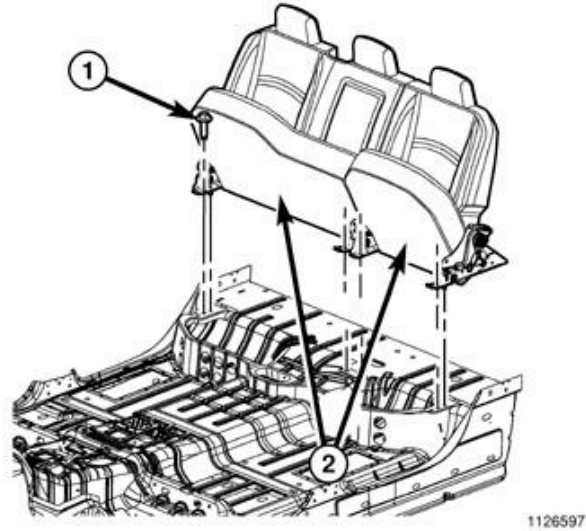

Figure 48 – Rear Seat Front Fasteners
- Remove all the rear seat front bolts (1) (Figure 48).
64. Install the rear seat front bolts (1) (Figure 48).